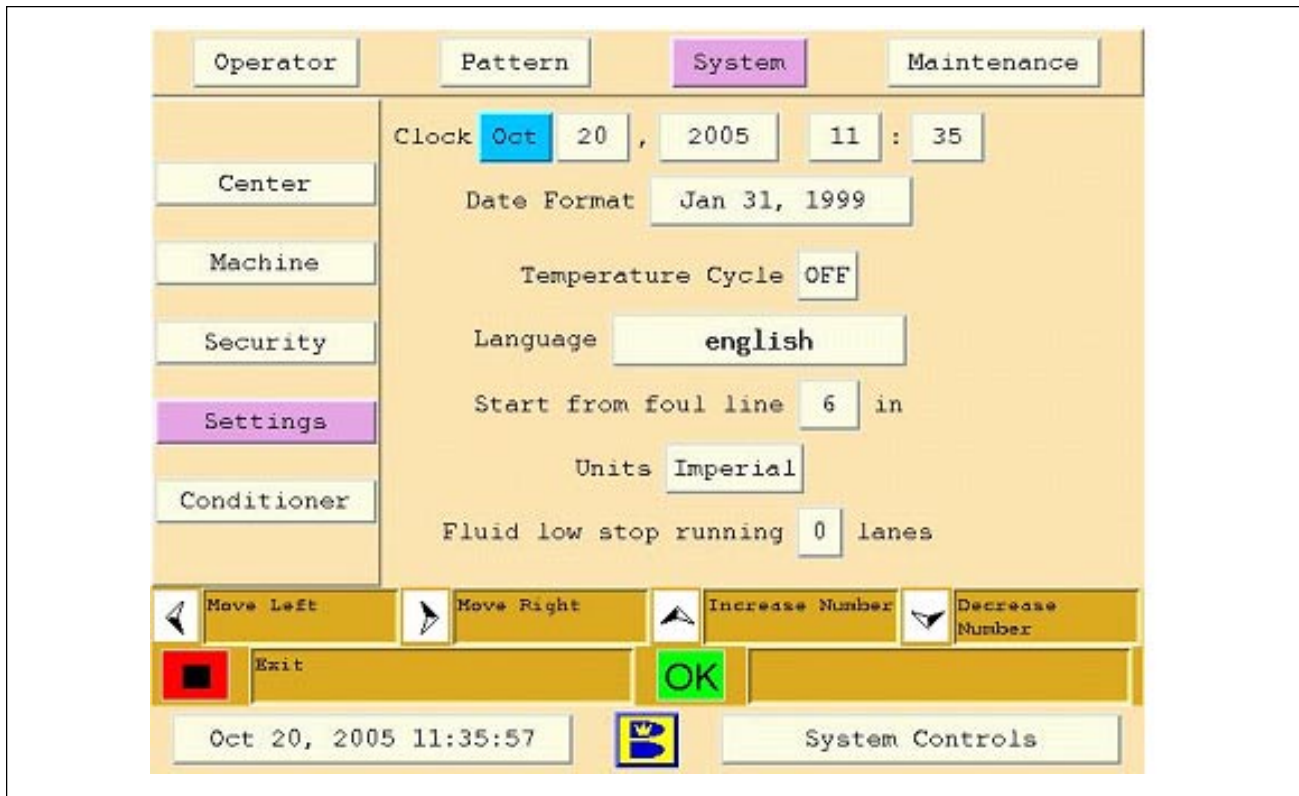

Figure 4-19. System Settings
The system settings are used to set clock functions like the date and time, date format (MM/DD/YY or DD/MM/YY). The Temperature Cycle allows the user to enable or disable the oil heating function (we recommend this feature to be “on”) during which the conditioning system cycles conditioner and steadily heats it to 80° Fahrenheit (~26° Centigrade). Operators may choose the language they prefer. The default start distance from the foul line must be selected, so no pattern may be set to apply conditioner between this setting and the foul line. The operator can change their Units of measure from Imperial (US) to Metric (International), and the number of lanes they wish to be able to run after the first low fluid level message appears. Refer to Figure 4-19.